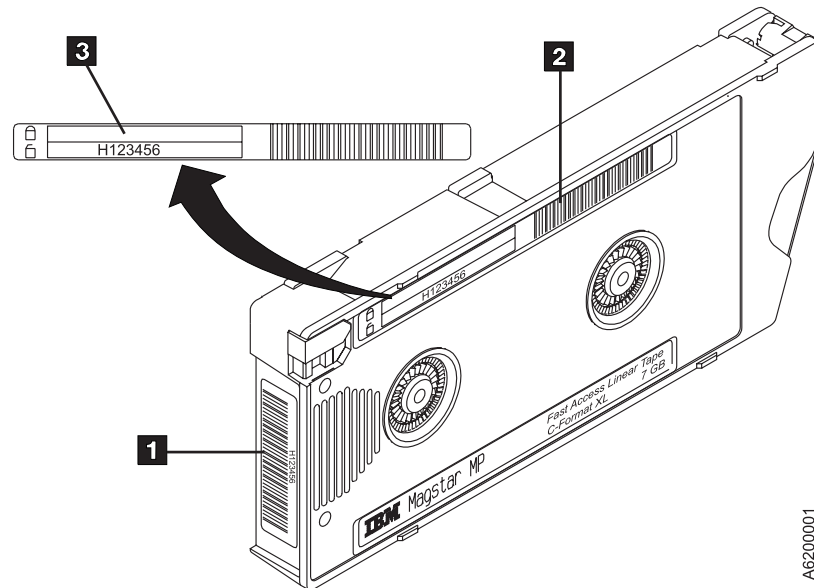

Figure 4. Magstar MP C-Format XL Tape Cartridge Labels
- The first character (left-most character) is the media type character and is an uppercase "H" for all Magstar MP C-Format XL cartridges (see **3** in Figure 4), "G" for C-Format cartridges, and "F" for B-Format cartridges and for the cleaning cartridge.
- The bar code is located on two labels on the Magstar MP cartridge, (see **1** and **2** in Figure 4).